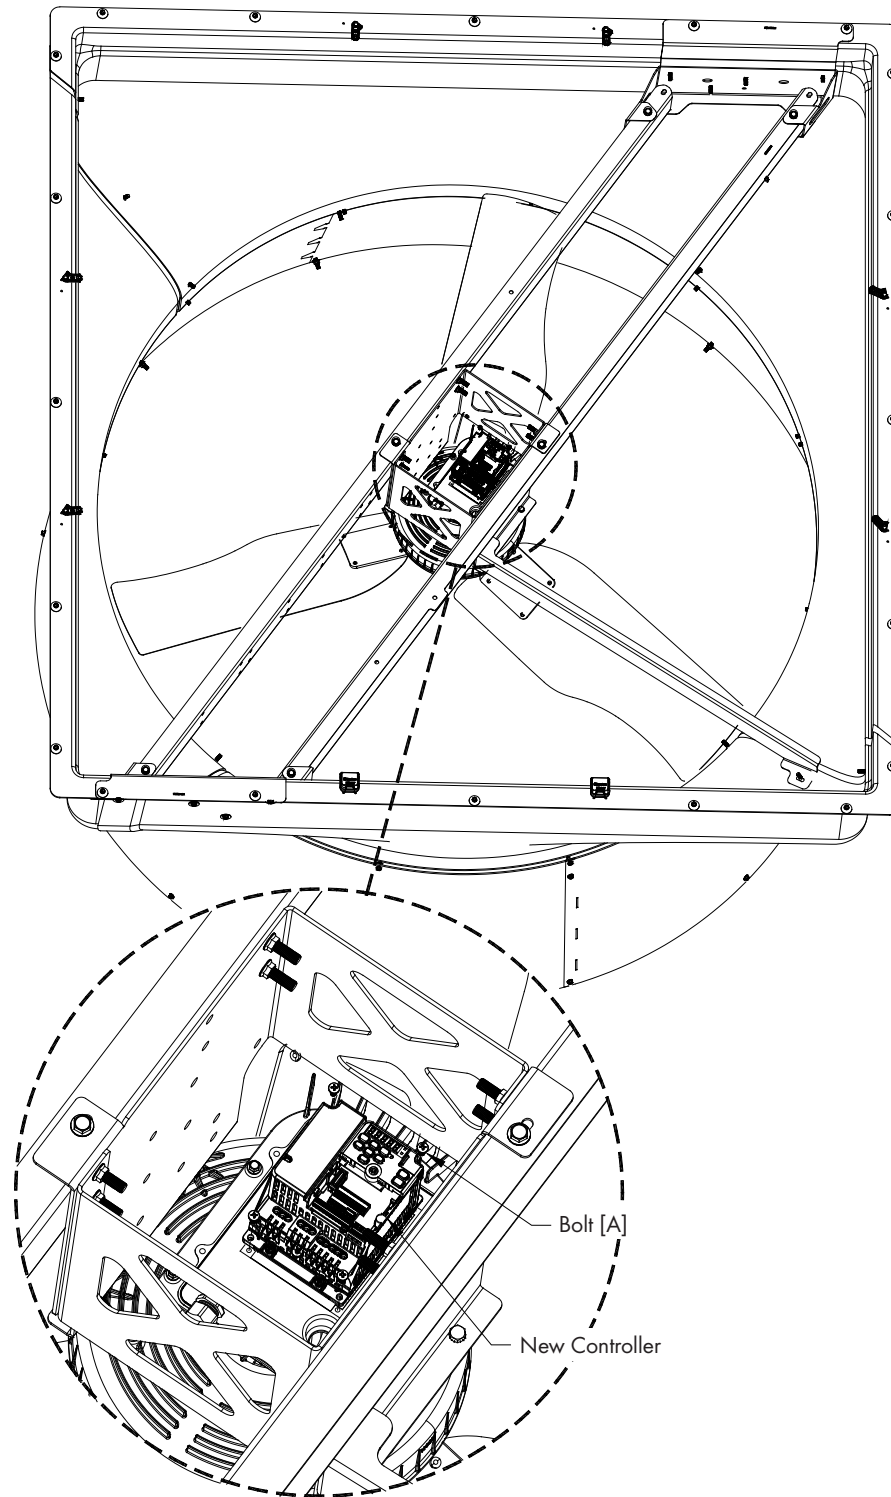

Figure 5
Attach the new Munters Drive Controller to the heat sink where the old one was and secure it in place with (4) Bolts [A]. See Figure 5.